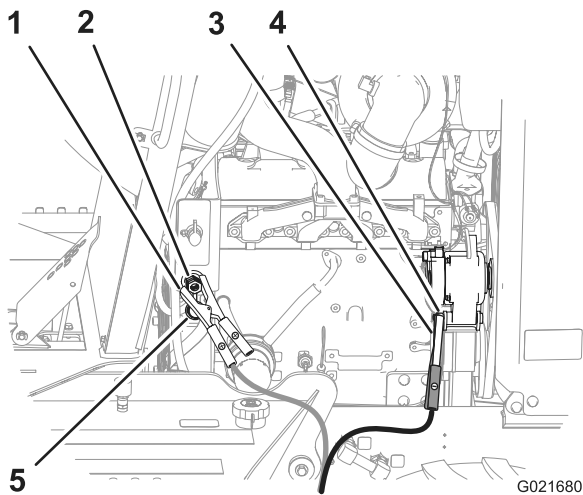

Figure 58
4. Remove the cover from the jump post (Figure 58).
5. Connect the positive (+) jumper cable to the jump post (Figure 58).
6. Connect the negative (-) jumper cable to a ground point, such as the nut at the pivot point for the alternator (Figure 58).